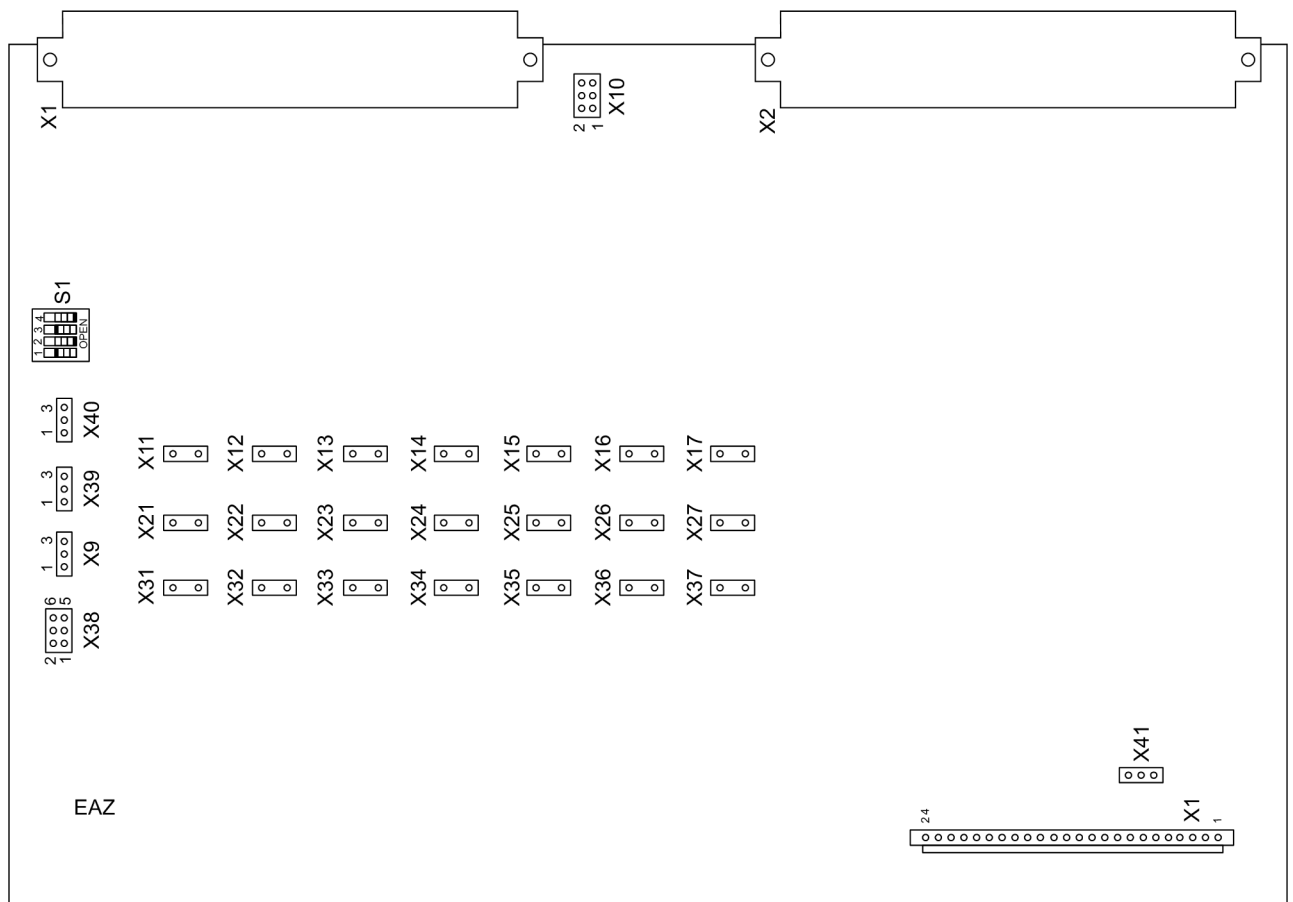

Figure 3-1 Location of the jumpers on the EAZ module (central unit)
- ❑ Change the rated control voltages for the binary inputs of the EAZ module as desired by relocating the jumpers (shown in Figure 3-1, page 53 and Table 3-1, page 53).